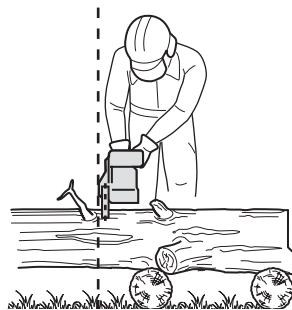

Fig.21
4. Only use the product with a secure stance. Hold the product to the right-hand side of your body (Fig. 21).